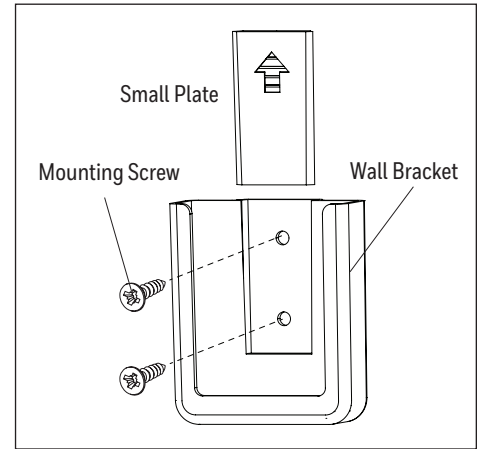

Figure 4.3
3. Remote control comes equipped with a wall bracket. If you wish to install the wall bracket, remove the small plate to expose the screw holes. Insert wall brackets screws through holes and into wall, then cover with the previously removed small plate. The remote can be stored in the wall bracket for easy access (Figure 4.3).